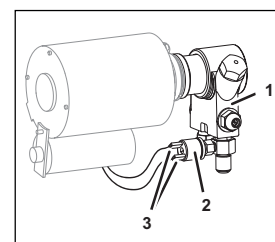

Fig. 44
1. Disconnect the plugs (Fig. 44/3) from the water inlet pressure switch (Fig. 44/2).
2. Turn the water inlet pressure switch (Fig. 44/2) and remove it from the carbonator pump (Fig. 44/1).
3. Apply thread adhesive to the thread of the new water inlet pressure switch (Fig. 44/2).
4. Attach the new water inlet pressure switch (Fig. 44/2) to the carbonator pump by turning it (Fig. 44/1).
5. Connect the plugs (Fig. 44/3) on the water inlet pressure switch (Fig. 44/2).